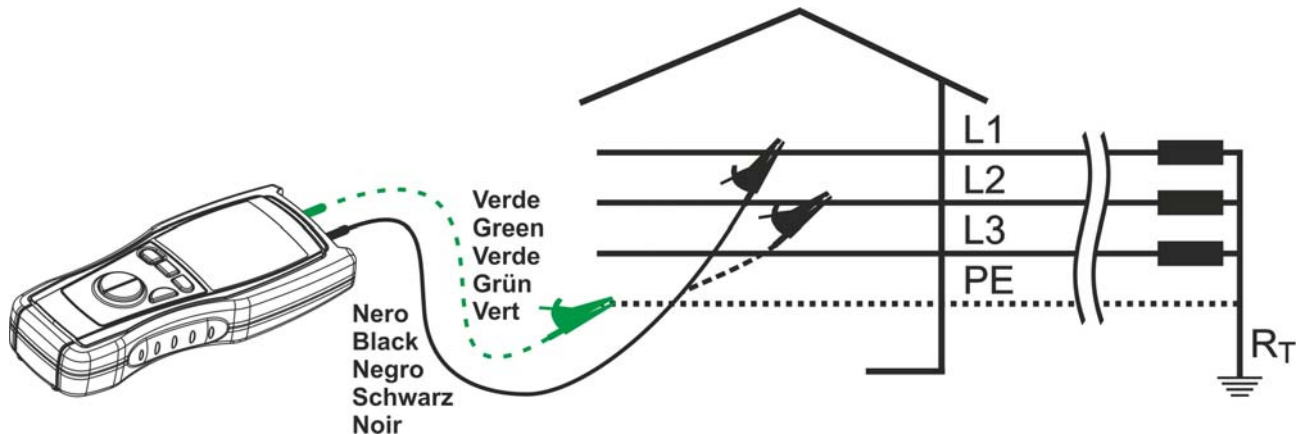

Fig. 7: Connection of the instrument's terminals during test
**"PH1"** (secondary display): the operator is invited to connect the measuring cable to the cable of the L1 phase voltage (see § Fig. 7)
"**PH2**" (secondary display): the operator is invited to connect the measuring cable to the cable of the L2 phase voltage (see § Fig. 7)